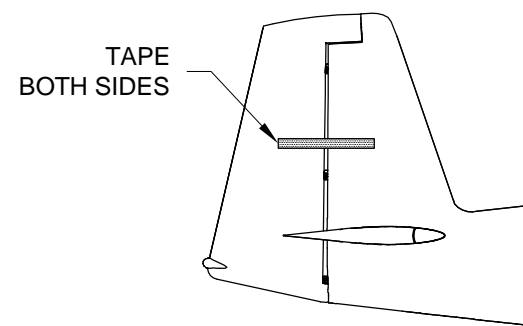

FIGURE 1: TAPE RUDDER
Step 8: Position the yaw servo plate as shown in Figure 1 and temporarily attach it to the bellcrank mount with the longer screws called out in Figure 2.